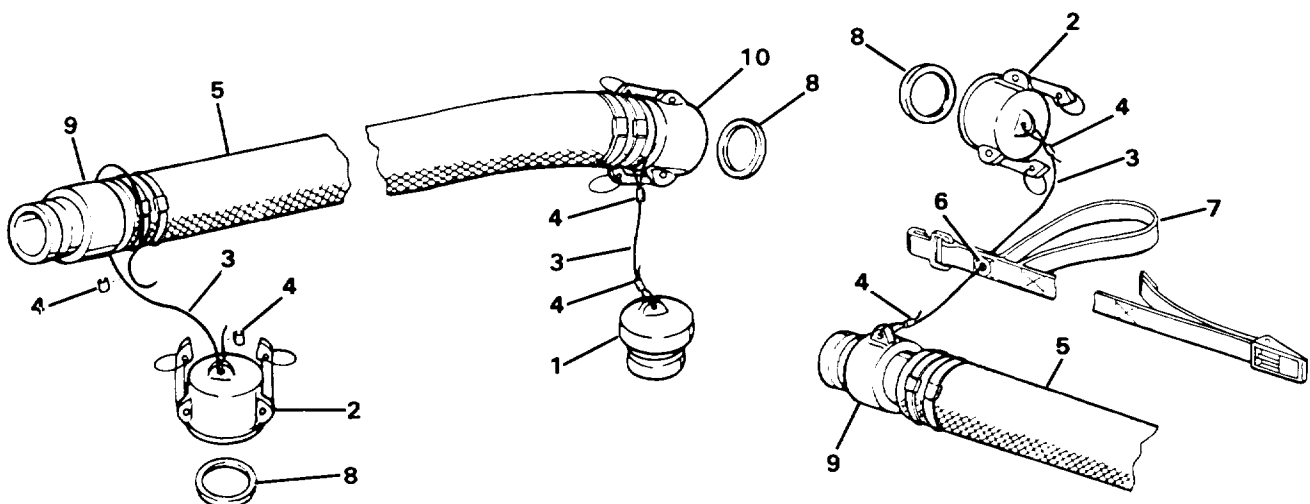

Figure 4-13. Water Hoses
- a. Refer to Figure 4-13 and inspect and isolate water leak. Replace any hose (5) that leaks at any point other than a joint with gasket.
- c. Inspect hose for missing dust caps (2), dust plugs (1), or missing canvas straps (7). Repair by replacing missing caps, plugs or straps.
- d. Inspect hose (5) for missing or damaged gaskets (8). Replace missing or damaged gaskets. Clean dirty gaskets.
- e. Inspect hose for damaged end connectors. Item (9) is a male end connector; item (10) is a female end connector. Replace any hose with damaged end connectors.
- f. Inspect hose for damaged dust caps (2) or dust plugs(1). Repair by replacing dust cap or dust plug.
- a. Refer to Figure 4-13 and remove damaged dust plugs (1) and caps (2) by using a wire cutter to cut the attaching wire (3) at wire clamps (4).
- b. Install a new piece of wire (3) around hose (5) and secure with a new clamp(4). Squeeze clamp tight with a pliers or use a punch and hammer to compress the clamp.
- c. Thread the wire (3) through the grommet (6) on the strap (7) and then through the eyelet on the cap or plug. Secure the end of the wire with another clamp (4). Secure the clamp with pliers or punch and hammer.